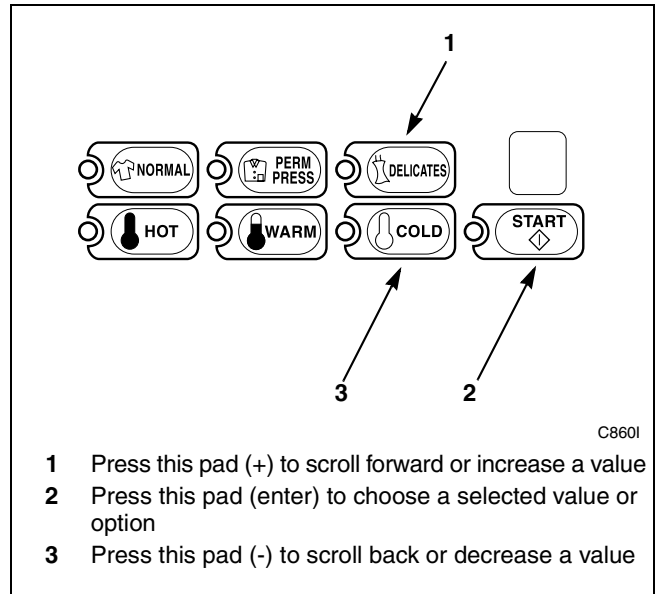

Figure 197
5. Press the DELICATES (+) or the COLD (-) keypad to increase or decrease the current hour to the desired hour. Refer to *Figure 197*.